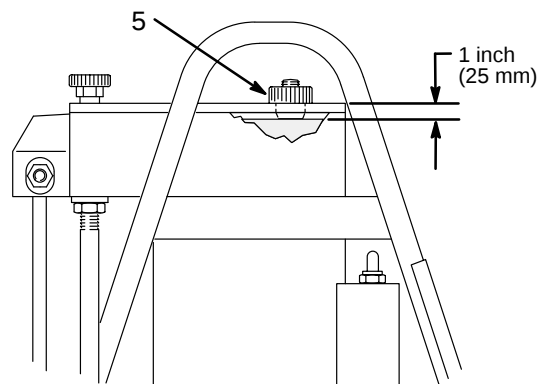

Fig. 11
See Fig. 11.
14. Lubricate the screws (25) and then install and torque them to 170–200 in-lb (19–23 N.m).
15. Check the hydraulic oil level and add Graco-approved oil as necessary until the level is 1 inch (25 mm) from the top of the plate. See Fig. 11.